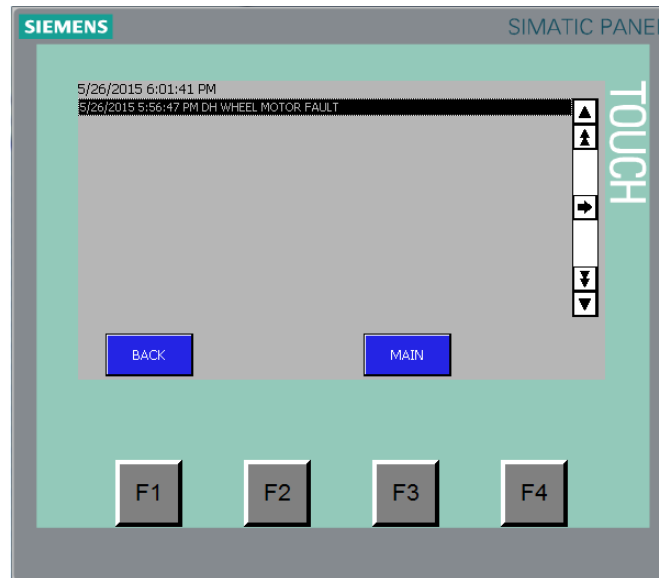

Figure 3-14
4. To see a history of past alarm conditions, press the ALARMS button followed by ALARM HISTORY. See Figure 3-14